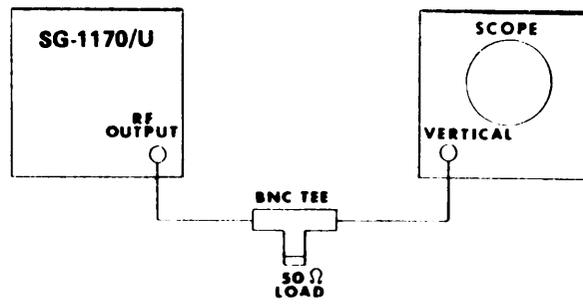

Figure 2-4. Test Set-up for Installation Checks
■ Connect the equipment as shown in Figure 2-4. The 1 MHz signal should be ~0.9 Vpp. (A high-frequency oscilloscope must be used for these checks.)